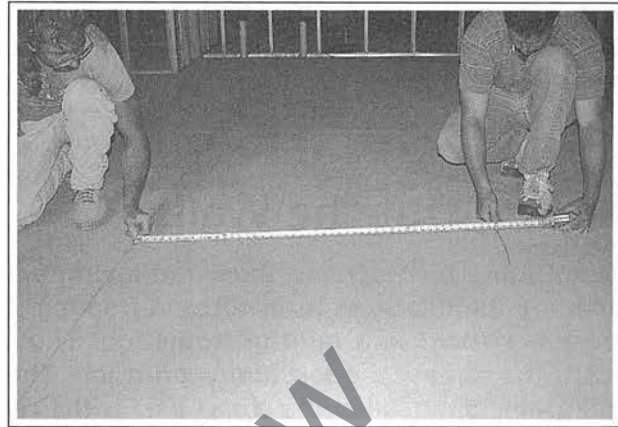

Figure 1-6. Measuring from the 3-foot mark and striking an arc at 4 feet, using the same edge of the tape at both points.
Step 3 From the 3-foot mark, measure 4 feet off the reference line, as close to 90 degrees as possible, and strike an arc approximately 1 foot long (shown in Figure 1-6). As you draw the arc, hold the tape measure to the crow's-foot on one specific edge of the tape. To ensure accuracy, you've got to hold the pencil on the same edge of the tape while striking the arc. Striking the arc is easiest as a two-man job. But if there's no help close by, drive a concrete pin into the pivot point and hook the end of your tape to the pin.